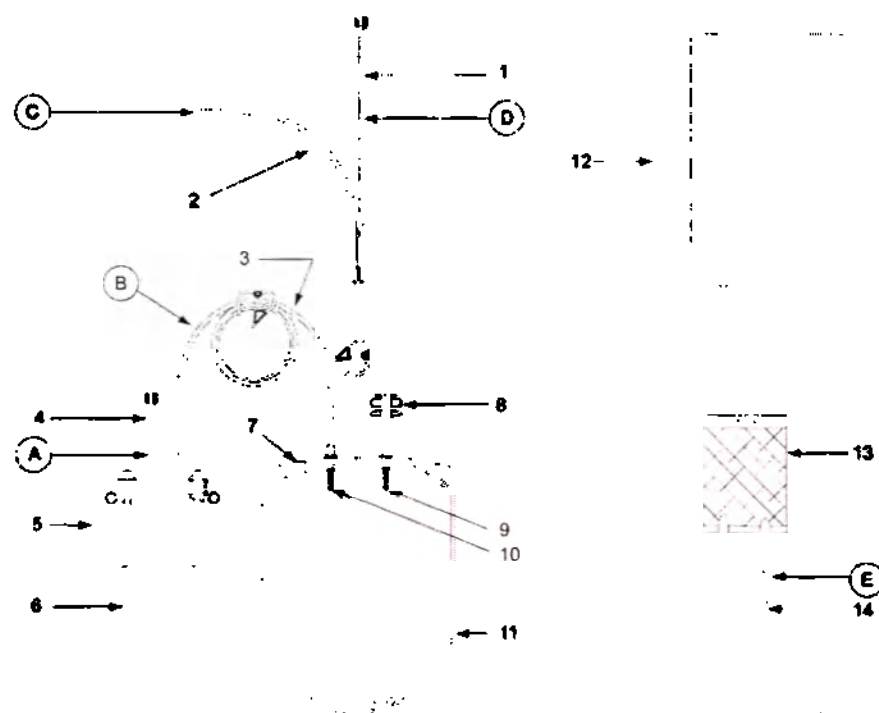

Figure 1: Mirasol Whole Blood Disposable Kit
- One opaque foil pouch containing one bag of riboflavin solution (500 μ M riboflavin in normal saline) (see Figure 1)
- One illumination/storage set with an illumination bag, a storage bag, and attached tubing and frangible connectors (see Figure 1)